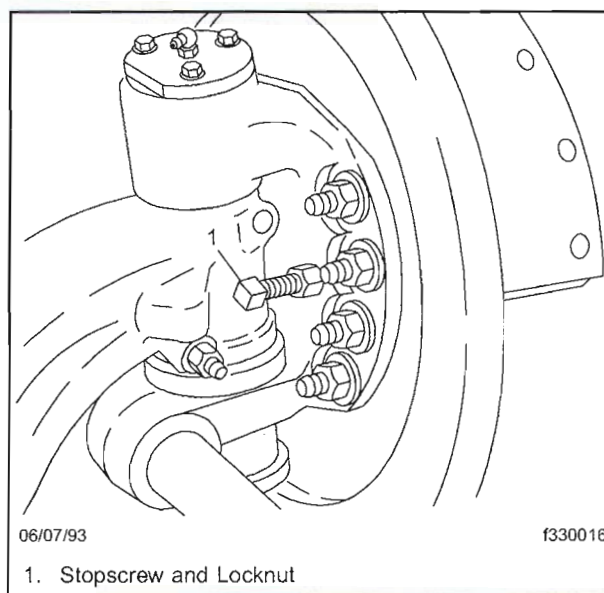

Fig. 8, Axle Stop
30.2 If necessary, loosen the stopscrew locknut; adjust the stopscrew to contact the axle when the maximum turning angle of the wheels is determined. See **Fig. 8**.